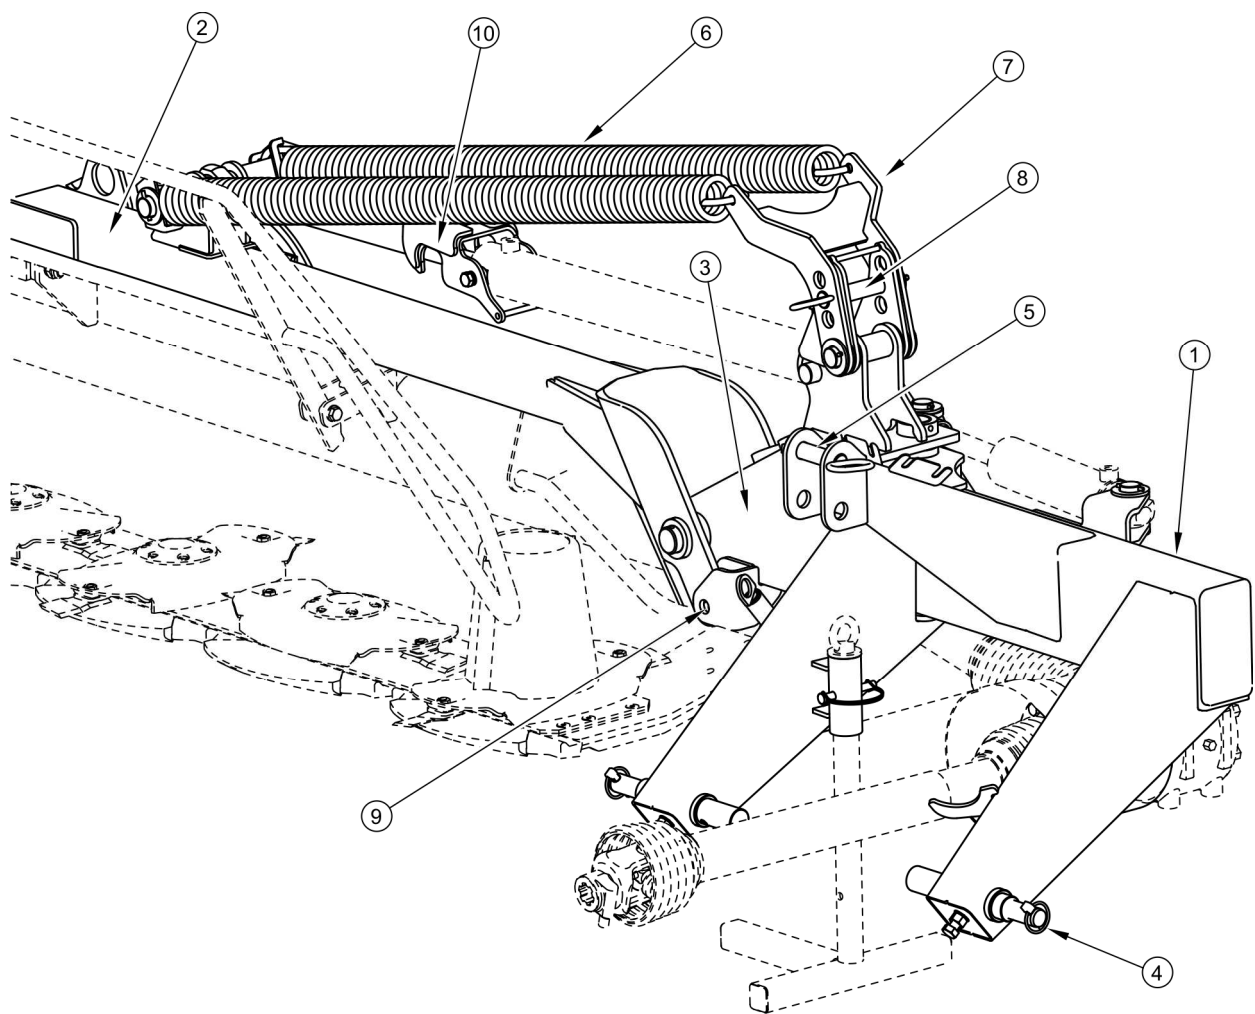

FIG. 3.2 Mower linkage
(1) linkage; (2) cutting unit; (3) main frame; (4) hydraulic system; (5) drive transmission; (6) swath guide; (7) guards; (8) interlock cable; (9) support, (10) key for changing cutting blades (11) swath conditioner shaft (12) swath guide
The main element of the mower linkage (figure 3.2) is the three-point linkage frame (1), equipped with two lower pins (4) and upper pin (5) for connection to the tractor's rear three point linkage. Moving arm (3) allows the cutting unit to swing backwards. Lifting arm (2) raises the cutting unit. To relieve the cutting unit, springs (6) are used, whose tension can be adjusted by changing the positioning of the pin (8). Using the pin (9) lifting arm can be interlocked (2) when mower is disconnected from the tractor.